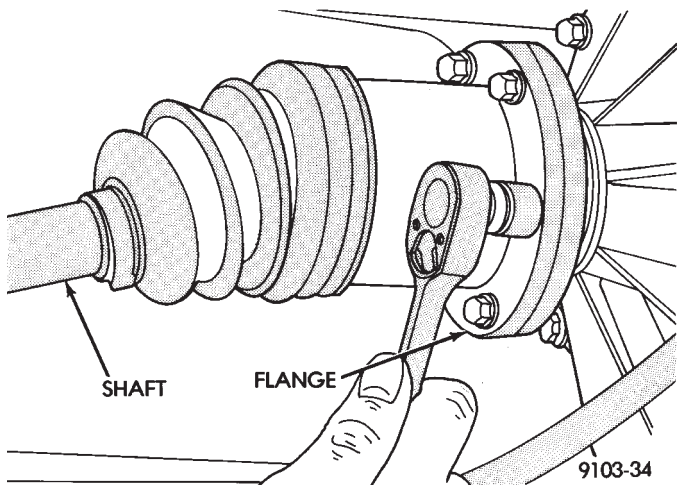

Fig. 2 Inner Half Shaft Bolts
(1) Remove inner half shaft retaining bolts (Fig. 2).